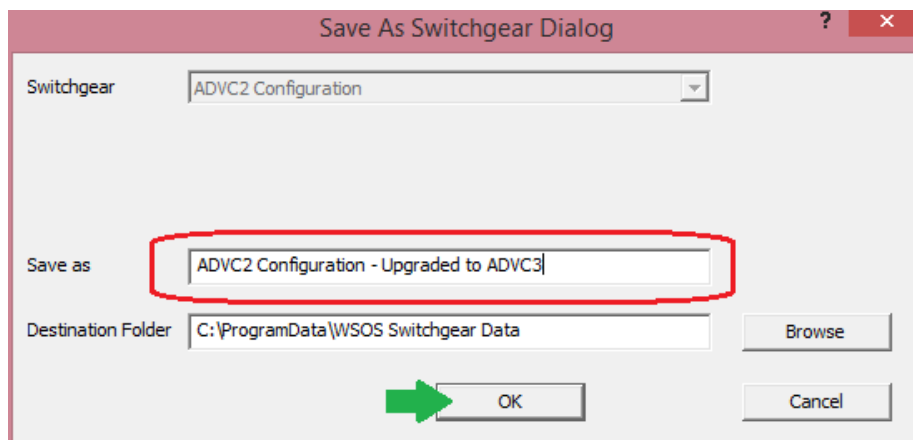

Figure 5: ADVC3 configuration name
3. Clicking this will result in a dialog box, shown in Figure 5, where in the user can enter a new name to save the resulting upgraded configuration. By default, the strings “- Upgraded” is appended to the original ADVC2 configuration file name. This ensures that the original configuration is not overwritten.